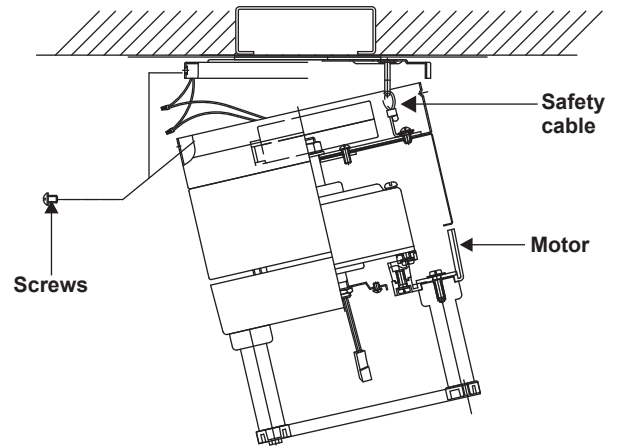

**Figure 7**
1. Connect the fan supply (black) wire to the black household supply wire as shown in Fig. 7.
2. Connect the neutral fan (white) wire to the white neutral household wire. (Fig. 7)